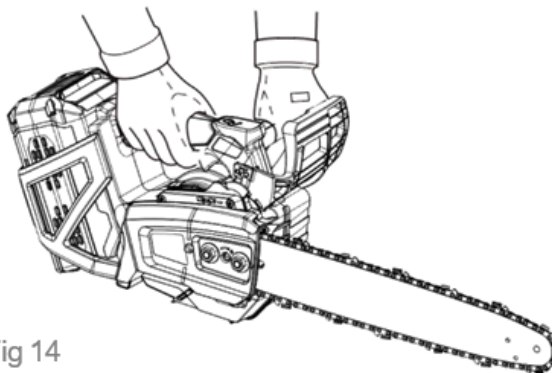

Fig 14
- Hold and control the chainsaw with your left hand on the front handle and your right hand on the rear handle; wrap your thumb around the handles (Fig. 14).